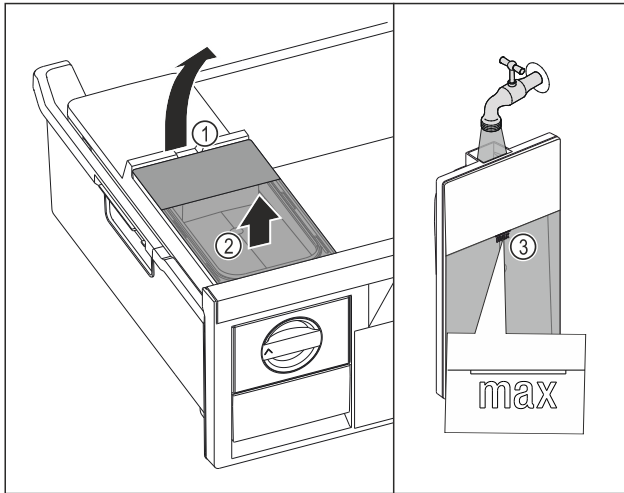

Fig. 124
- Lift the water tank at the recess Fig. 124 (1).
- Remove the water tank by lifting it upwards. Fig. 124 (2)
- Fill the water tank with drinking water up to the mark Fig. 124 (3).